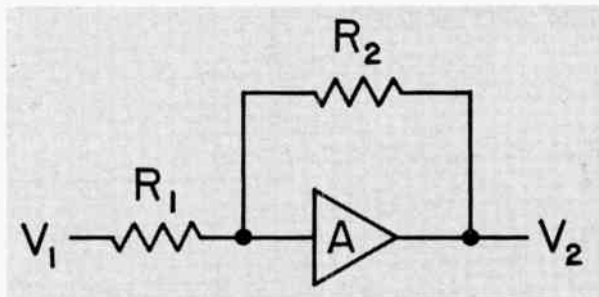

Figure 1. Basic diagram of operational amplifier.
In Figure 6 are shown oscilloscope photographs of the waveforms of the timing capacitors. In both, Figure 6(a) and 6(b), the rising waveform is applicable to the upper side of the capacitor [point (C) in Figure 1] and the falling waveform is that of the lower side, [point (B)].
The operational amplifier without drift stabilization is illustrated in Figure 1. An analysis of this basic